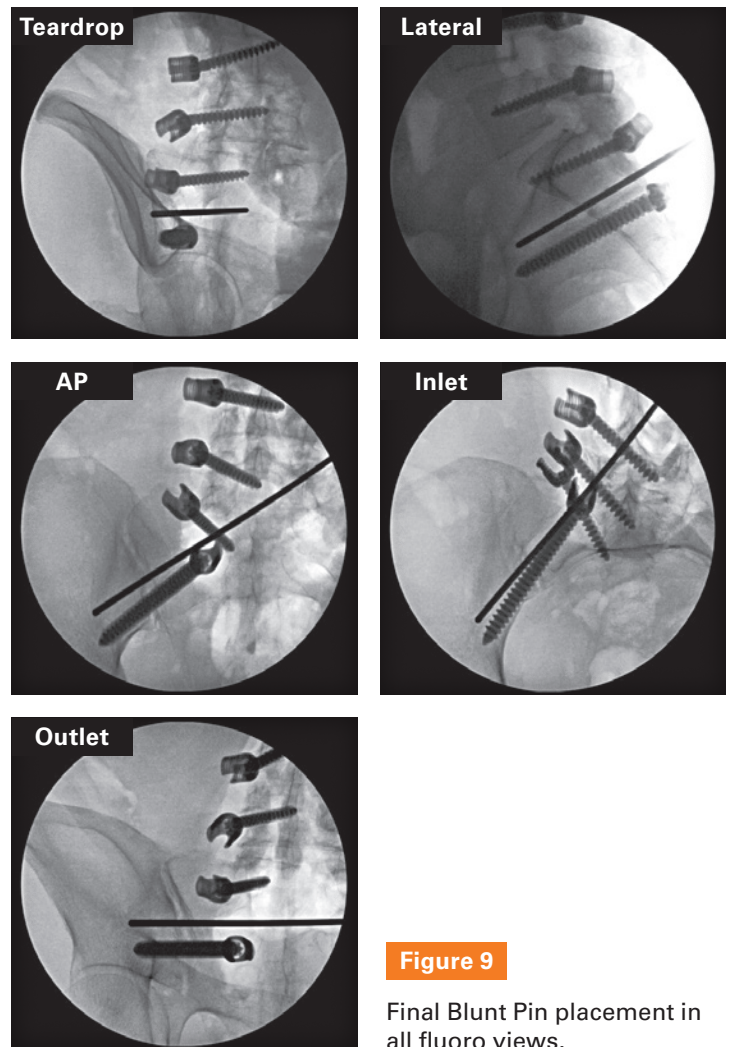

Figure 9
- ▶ Confirm pin placement with imaging, ensuring there is enough room for the iFuse TORQ implant with respect to adjacent hardware (e.g. iFuse Bedrock Granite, S2Al screw and S1 pedicle screw) (**Fig. 9**).